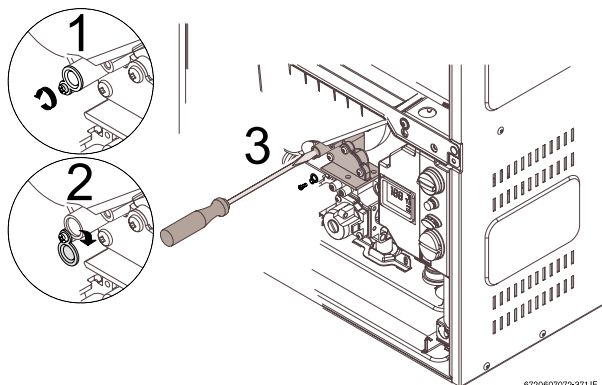

Fig. 43 Adjusting
- ▶ Turn the screw in order to regulate the air-gas mixture inside the ventilator until the CO₂ level required is reached (Fig. 43, pos. 3).